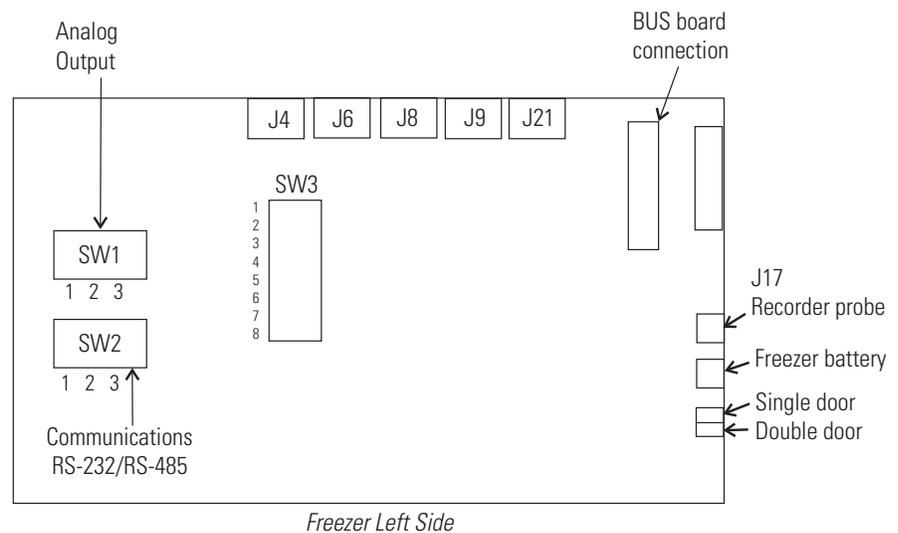
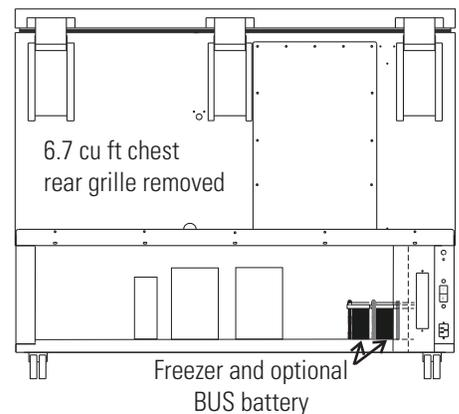
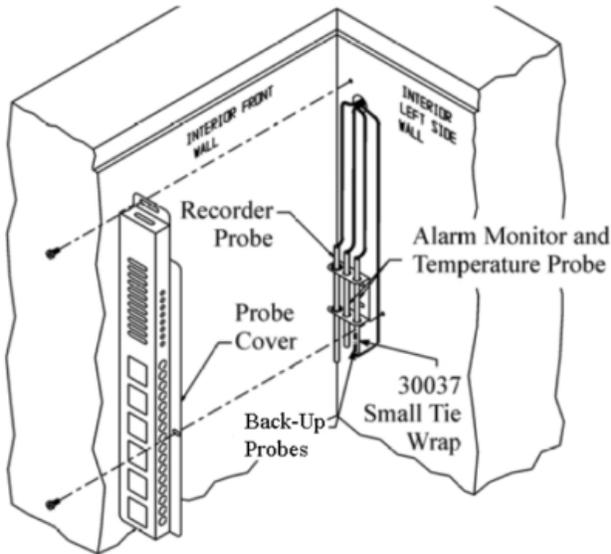
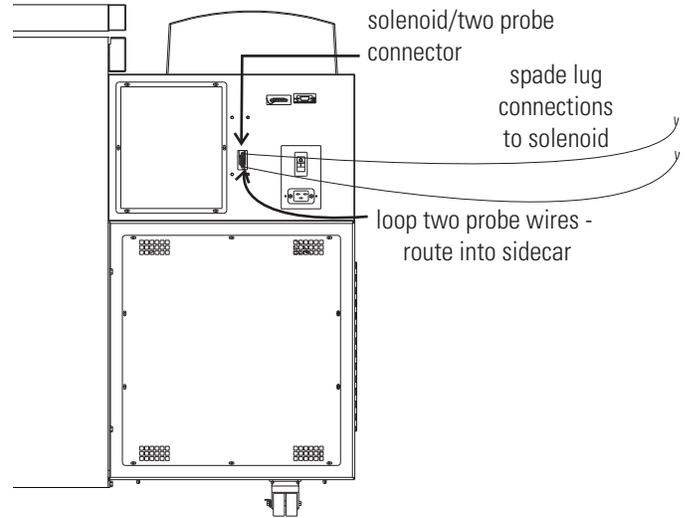

Figure 13. Microboard
Figure 16. Location of Batteries
Figure 18. Probes
Figure 19. Connections
1. **3.0 and 6.7 cu. ft. units:** Remove the top three screws securing the left (facing the freezer) side panel. Loosen the bottom three screws to obtain access to the micro board. The micro board (Figure 13) is located on the left, near the back of the freezer base.
- Connect the BUS control board to the micro board with the ribbon cable (Figure 13).
- The battery power switch is located in the front of the freezer. Open the lower door by grasping the bottom left corner. Verify that the battery power switch is in the Off position (O).
- Install the BUS battery. Remove the screws securing the back grille. Remove the two nuts securing the battery bracket. Remove the bracket. Install the battery and secure (see Figure 16).
11. Install the BUS control board onto the bracket supplied. Mount the bracket perpendicular to the micro board with screws. See Figure 19. Connect the BUS control board to the micro board with the ribbon cable (see Figure 13). Ensure correct orientation of the J17 jumper cap (see Figure 15).
4. Open the freezer lid and locate the probe cover on the upper front left wall. Remove the two Phillips head screws securing the probe cover (see Figure 18).
5. Carefully remove the Permagum sealant from the interior probe port opening. Route the two BUS probes through the probe port, approximately 12" (Figure 19). Secure the two back-up probes to the temperature probe using a small tie wrap (Figure 18).
7. Install the probe cover (Figure 18).